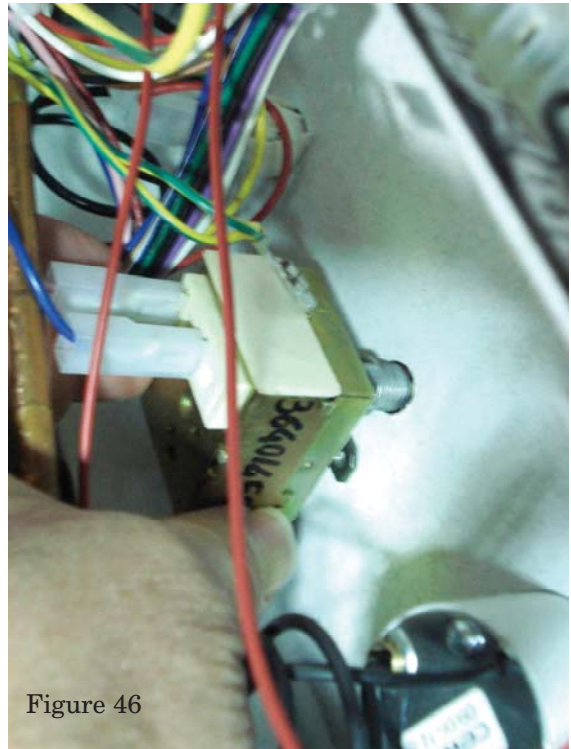

Figure 46
6. Attach the wires removed earlier from the auto-reset water temperature limit to the new manual water temperature limit. See Figure 46.